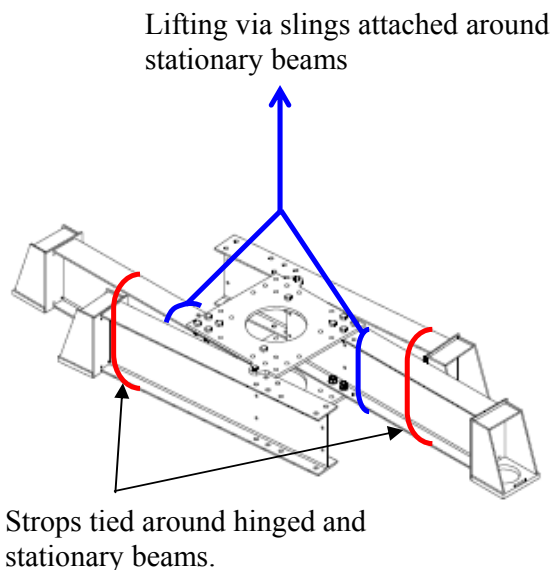

Figure 3 – Strops (in red colour) securing hinged beams to stationary beam at boot end. Slings (in blue colour) attached on stationary beams for lifting.
- Secure the lifting slings around the stationary beams as shown in Figure 3.